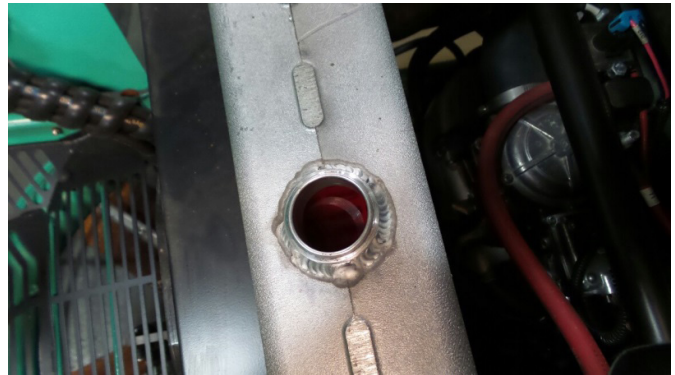

Figure 8. Adding Engine Coolant
3. Pour engine coolant (Dexcool or long life coolant only) slowly into the radiator until it is even with the lip of the engine coolant filler port (Figure 8).